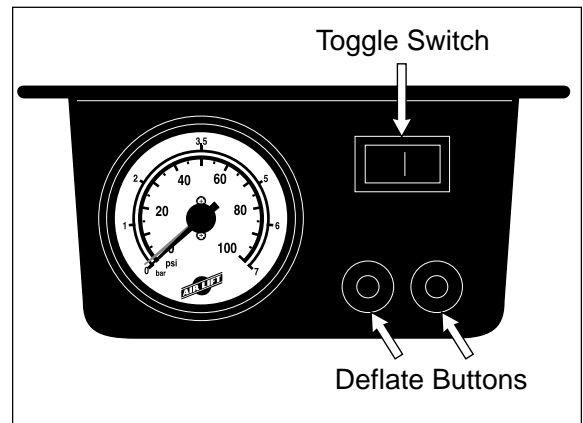

Figure 9
1. To inflate the air springs and raise that side of the motor home, depress the toggle switch on the control panel. The compressor will turn on automatically to increase the pressure as indicated on the gauge. Once the desired pressure is reached release the button and the compressor will shut-off (Figure 9).
2. To deflate the pressure and lower that side of the motor home, depress the down button to deflate to desire pressure (Figure 9).